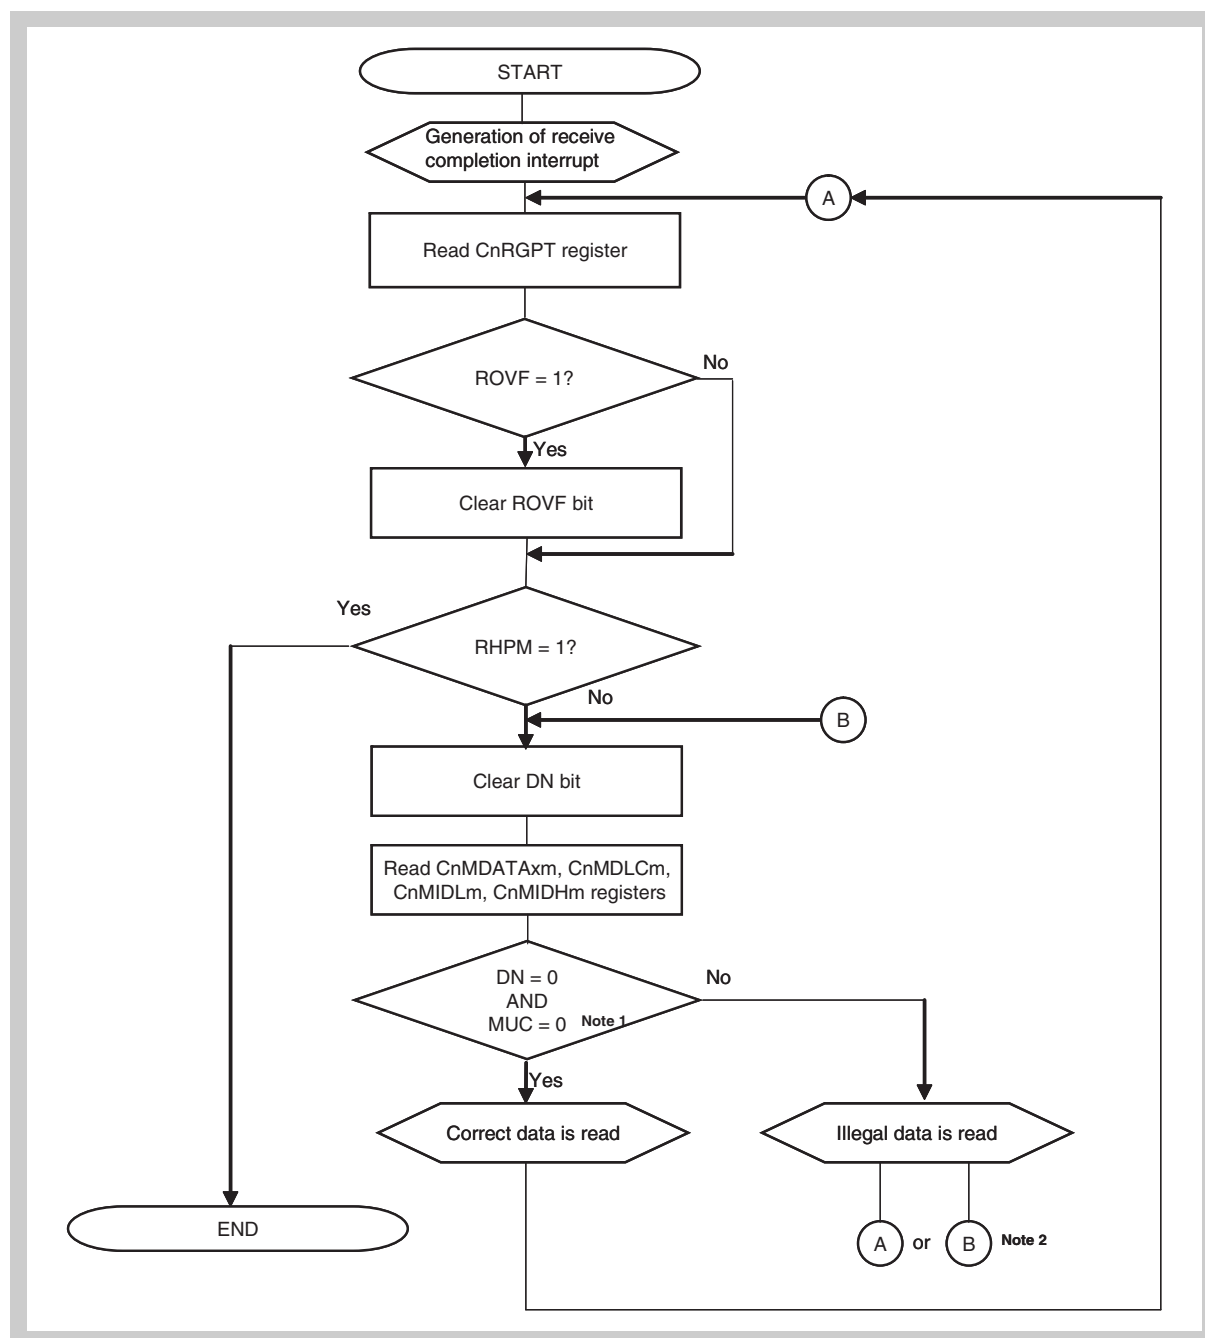

Figure 18-50 Reception via interrupt (using CnRGPT register)
5. It can be used alternatively to *Figure 18-50 on page 832*.